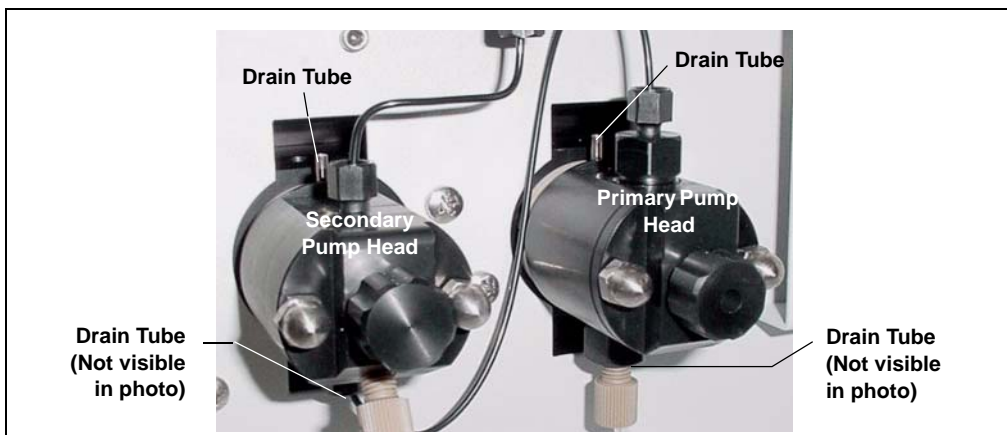

Figure 103. Primary and Secondary Pump Heads with Drain Tubes
4. Install the tubing as follows (see Figure 103):